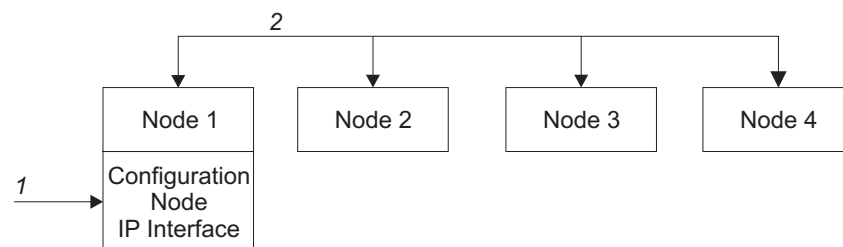

Figure 1. Configuration node
Figure 1 shows an example cluster containing four nodes. Node 1 has been designated the configuration node. User requests (1) are handled by Node 1.